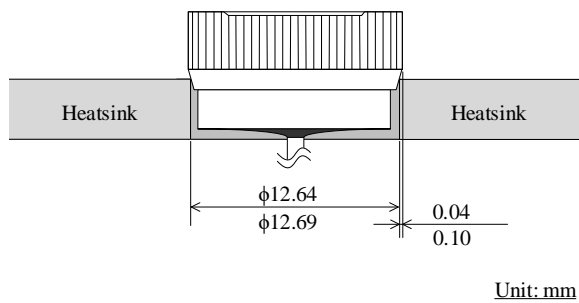

Figure 7 Recommended Hole Size and Interference
- Recommended hole size and interference: See Figure 7